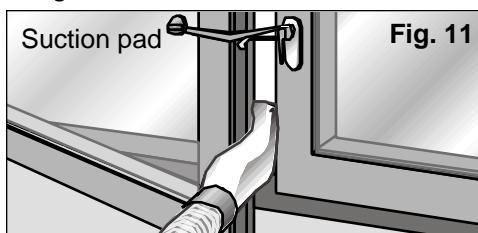

Fig. 11
- Close the window as far as possible and secure it with the suction pad supplied, **Fig. 11**.